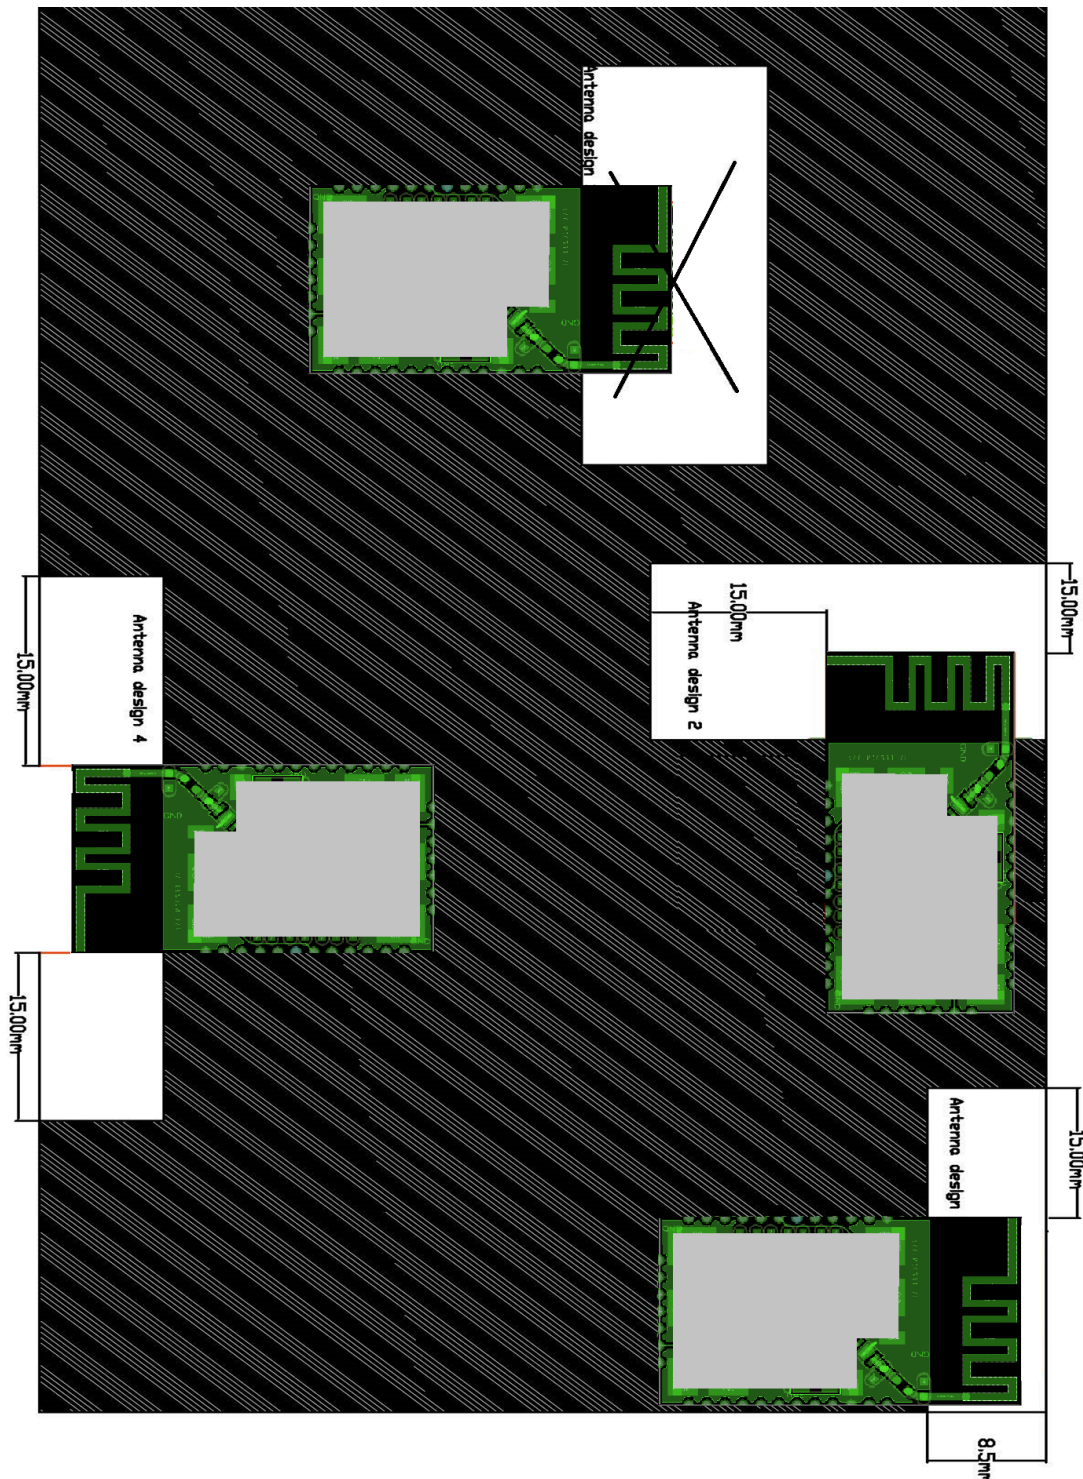

Figure 5 : Placement the module and the ground of main PCB Board
2. There should also have a good ground panel and clearance on the main PCB board on which the module is mounted. As shown in Figure 5.